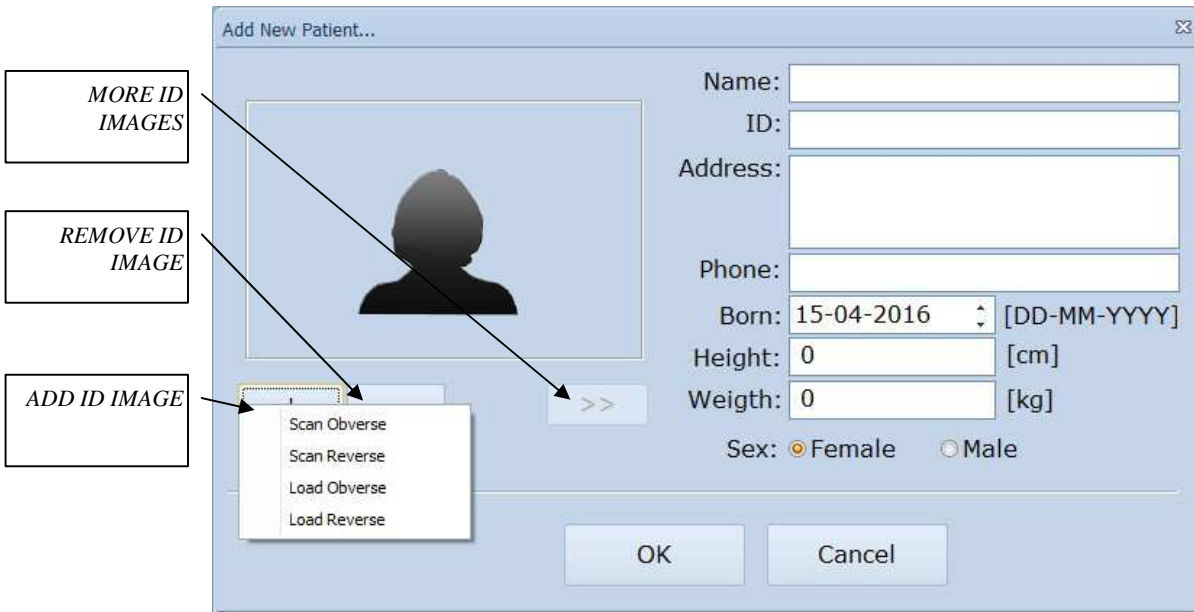

Figure 21. Patient Data Window
Patient data can be complemented with an image of an ID card. If you have an appropriate scanner connected to your computer and installed properly, all you need to do is go to the <Add New Patient> window and select the button marked <+> – see Figure 21. In the menu that will expand, select <Scan Obverse>. Then insert the ID into the scanner, so that the page with the image faces down.
- Select < + > in the Patient Data Window - Figure 21